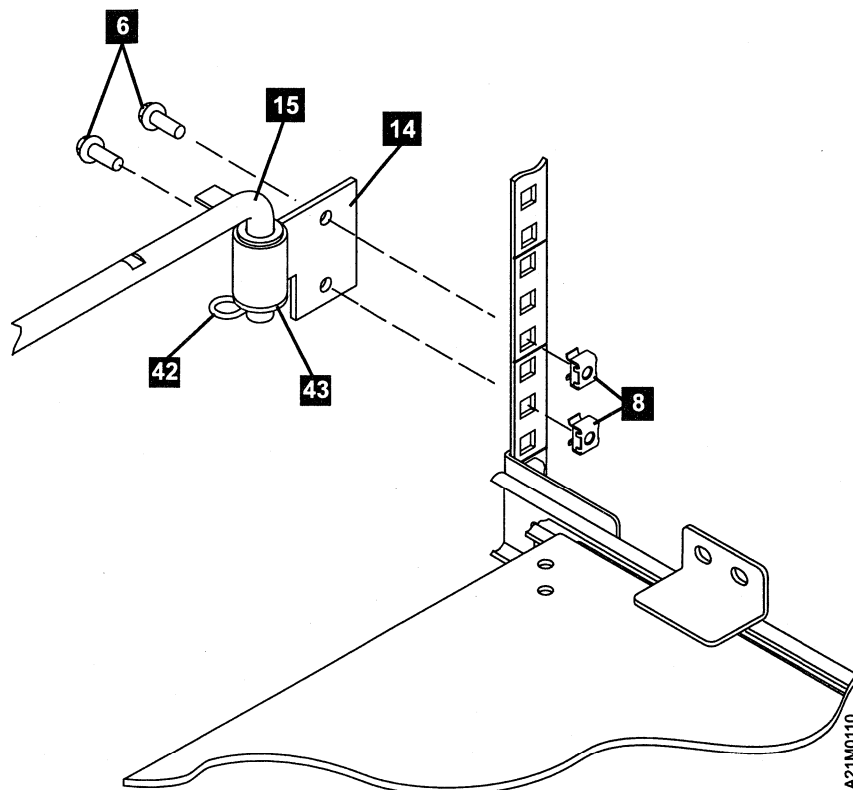

Figure 61. Attaching Cable Arm Hinge and Bracket
- \_\_\_ Step d. See Figure 61 on page 84 to install two M6 caged nuts **8** for the articulated arm hinge. Viewed from the front of the rack, install the caged nuts on the right rear EIA strip. Ensure there is one open hole above the top slide caged nut.
- Step 10. See Figure 61 to install the pivot hinge **14**. Use two socket button head screws **6** through the pivot hinge and into the two caged nuts **8**. Tighten the screws. The pivot hinge should be installed in the EIA unit just above the right rear slide mounting position.